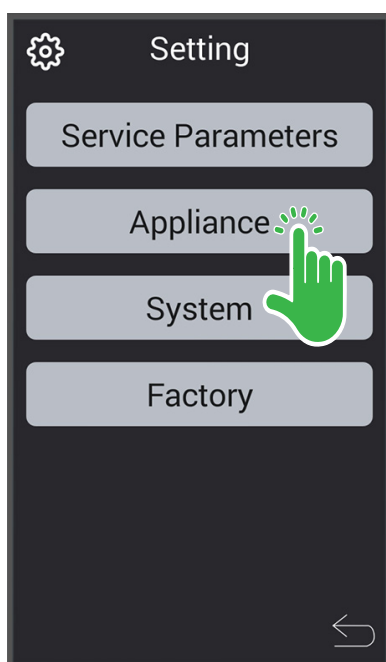
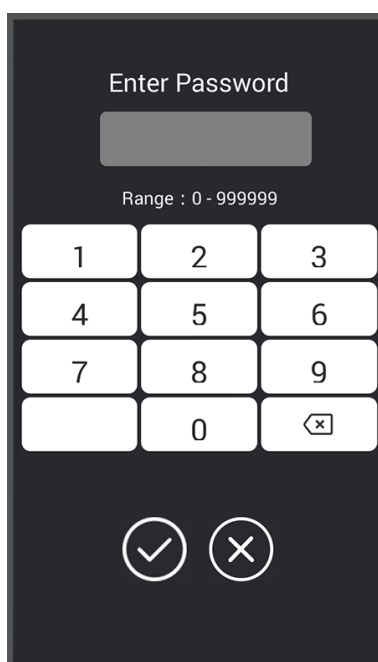

Fig. 77
Fig. 78
- From the **Settings Screen**, touch the Appliance button (Fig. 77), enter the password, and touch OK on the **Enter Password Screen** (Fig. 78).